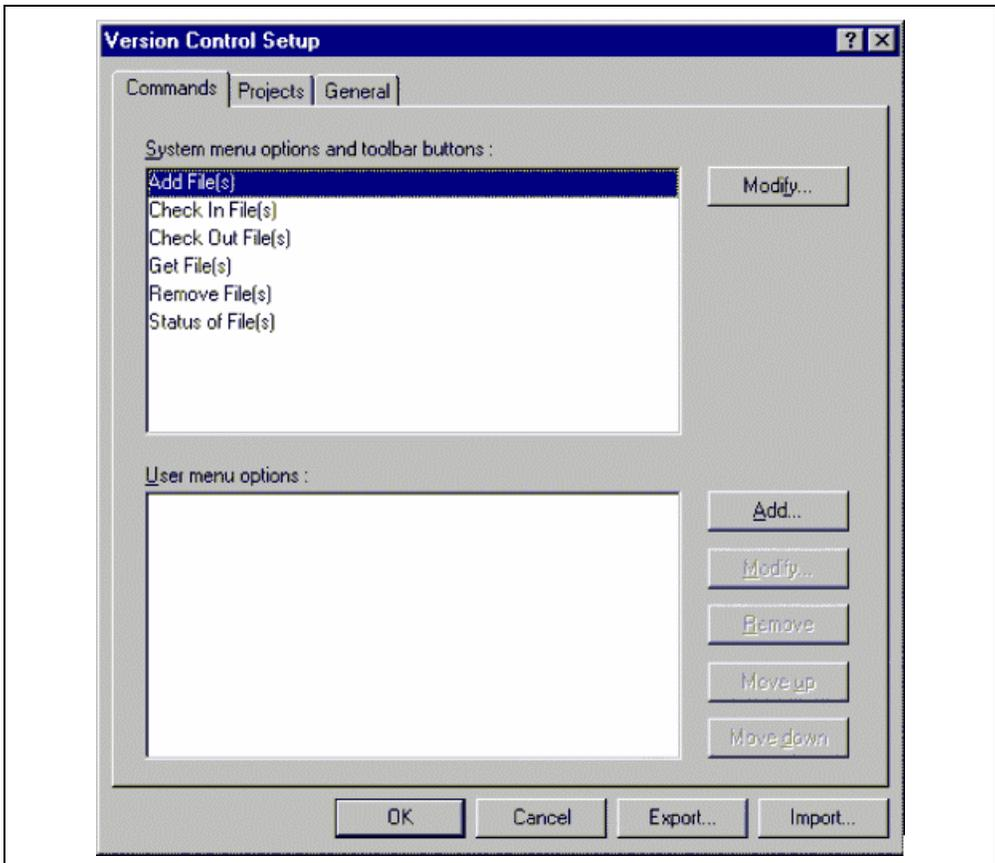
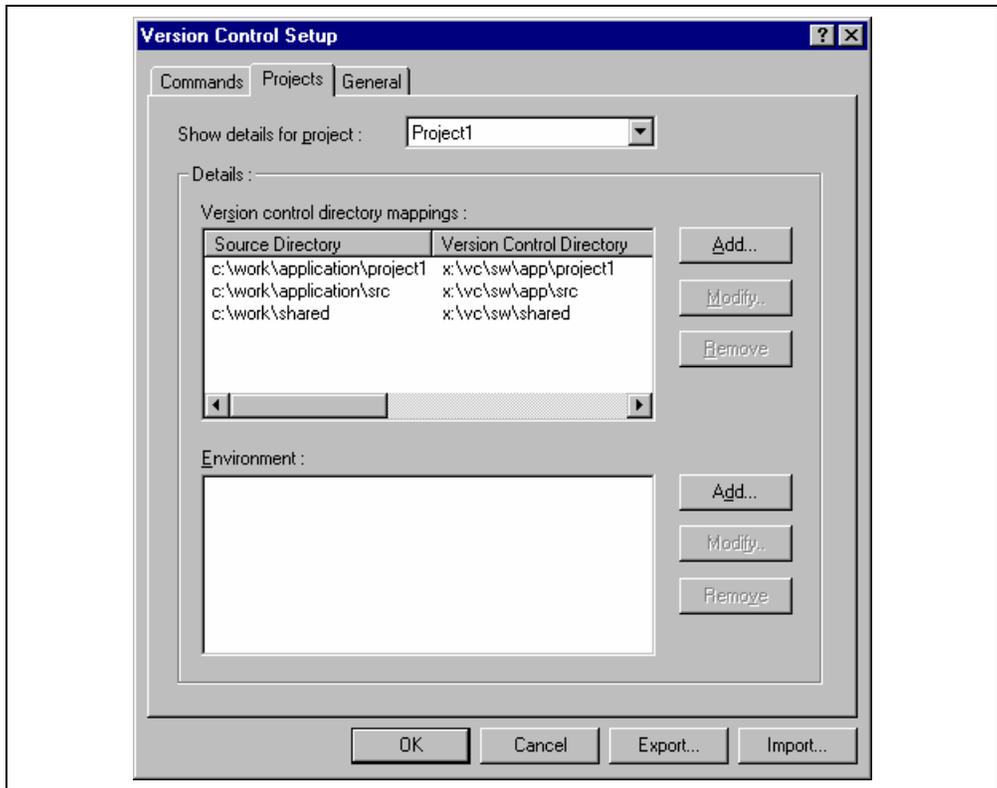

Figure 8.1: Version Control Setup Dialog Commands Tab
Figure 8.7: Version Control Setup Dialog Projects Tab
The custom version control support allows you the most flexibility in specifying how a version control system is to be used. To configure it, select **[Version Control->Configure...]**. The “Version Control Setup” dialog will be displayed (figure 8.1).
1. Select [Version Control->Configure...]. The dialog shown in figure 8.1 will be displayed.
1. Select [**V**ersion **C**ontrol->**C**onfigure...]. The dialog shown in figure 8.1 will be displayed.
However, when executed, this command can only ever get the file MAIN.C. To resolve this problem, HEW uses a system of placeholders and directory mappings. The latter tell the HEW which "working" directories (i.e. where source files are being worked on) map to which "controlled" directories (i.e. where the source files are stored in the version control system). Mappings between these two directory systems can be specified via the "Projects" tab of the "Version Control Setup" dialog (figure 8.7).
1. Select [**Version Control->Configure...**]. The dialog shown in figure 8.1 will be displayed. Select the “Projects” tab, and the dialog shown in figure 8.7 will be displayed.
1. Select [**Version Control->Configure...**]. The dialog shown in figure 8.1 will be displayed. Select the “Projects” tab, the dialog shown in figure 8.7 will be displayed.
Select the “Projects” tab of the “Version Control Setup” dialog to view the current settings (figure 8.7).